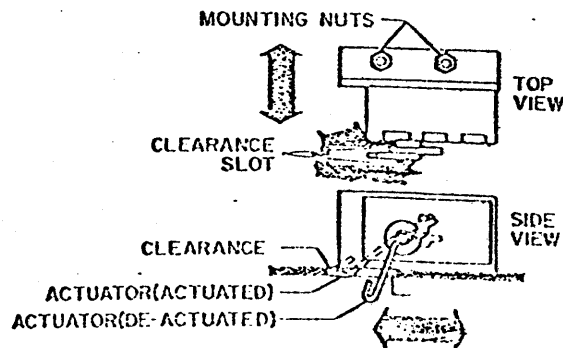

Fig. 3-100. Reject/Count Switch (LS8) or Jam Detector Switch (LS27)
1. Position the actuator within the clearance slot as in Fig. 3-100.